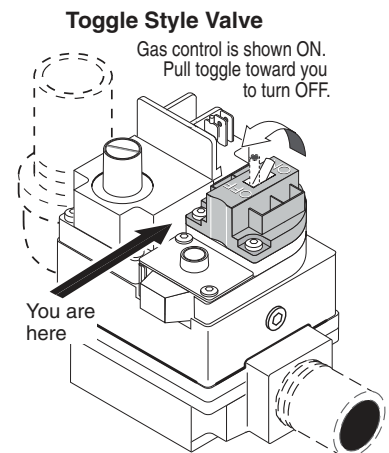

Figure 29.
6. **Toggle-Style Valve:** Pull toggle toward you to turn gas off, see **Figure 29**.
7. Wait five (5) minutes to clear out any gas. If you then smell gas, **STOP!** Follow “B” in the “Before Start-up” instructions (page 32). If you don’t smell gas, go to the next step.
4. **Toggle-Style Valve:** Pull toggle toward you to turn gas off, see **Figure 29**.